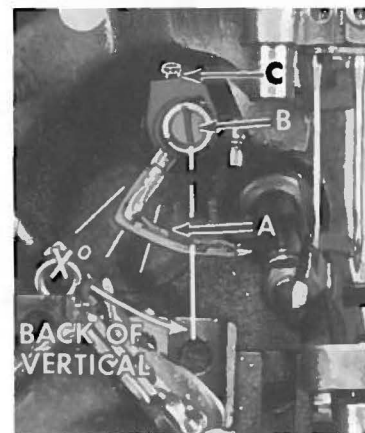

Fig. 10
Insert upper looper or spreader (A, Fig. 10) in its holder. Screw (B) holds the looper or spreader in its holder and permits looper or spreader to be pushed in or out, or turned around its shank. Screw (C) in the collar holds the holder in the shaft and allows the holder to be rotated or adjusted laterally.
When looper or spreader is at the right end of its stroke, the holder should be set to position the looper or spreader shank approximately "X" degrees back of vertical and flush with the top of holder (Fig. 10) on all Styles except 39800 CA, CB; and approximately 1/16 inch (1.59 mm) above the holder on Styles 39800 CA, CB. On later machines with the new looper/spreader holder (See Fig. 10 A), settings are the same for "X", "Y", and "Z" except for location of shank with respect to top of holder. This setting should be approximately 1/32 inch (.79 mm) above holder on all Styles except 39800 CA, CB, and approximately 3/32 inch (2.38 mm) above the top of holder on Styles 39800 CA, CB. These settings may vary depending on needle size. NOTE: Lines in bed casting represent 15, 30 and 45 degrees back of vertical. CAREFULLY set looper or spreader point to cross lower looper to the left of lower looper eye with approximately .002 inch (.051 mm) clearance. At extreme left end of travel the looper point or the lower point of the spreader should be set "Y" dimension to the left of the centerline of the right needle and "Z" dimension above throat plate (Fig. 11).